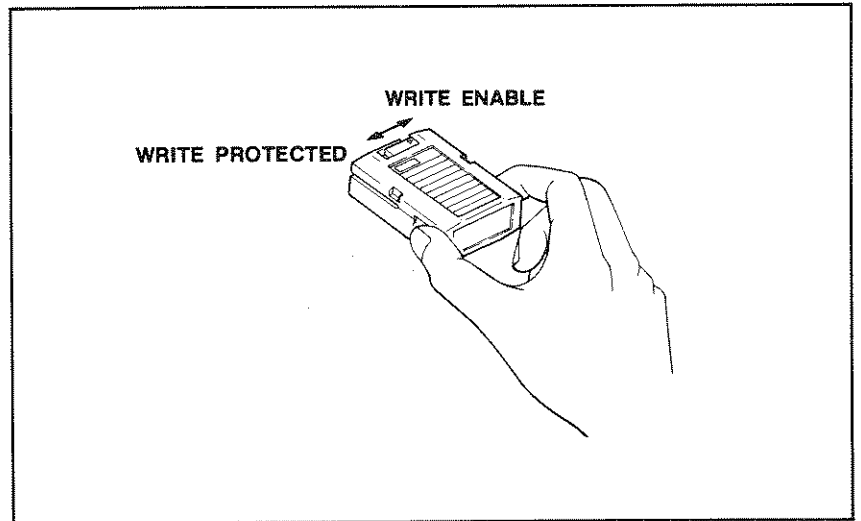
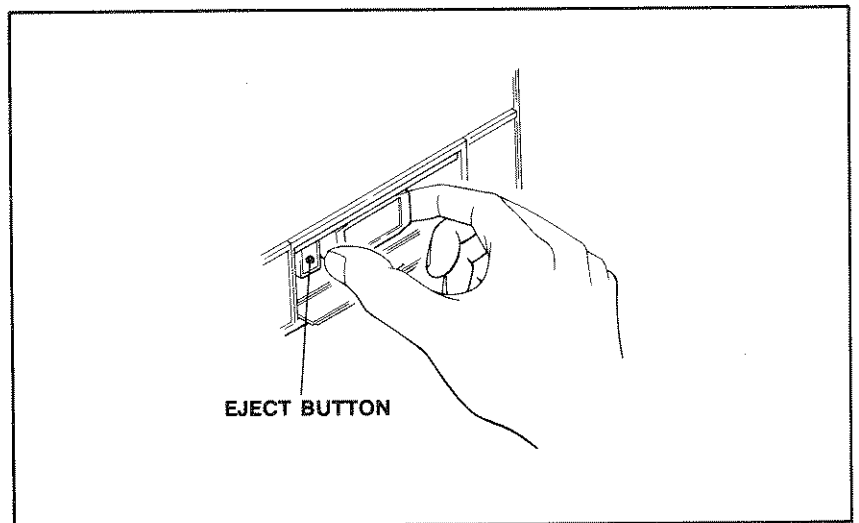

Figure 3-2. Bubble cassette write-protect key.
Figure 3-3. Inserting a bubble cassette.
3. Take a new bubble cassette out of its plastic case. If the bubble cassette is write protected, move the write protect key to the write-enable position (see Figure 3-2). Open the 370 bubble cassette door. Insert the bubble to the cassette holder, notched edge first, labeled side facing up (see Figure 3-3) until a click is heard and the eject button returns.